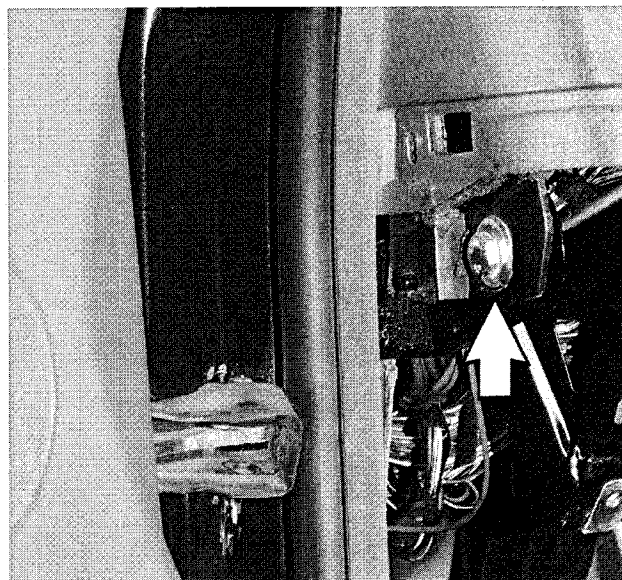

Fig. 10. Dashboard mounting bolt (arrows). Left side shown, right is similar. Some models may have two bolts on each side.
16. Remove mounting bolts on left and right ends of dashboard. See Fig. 10.